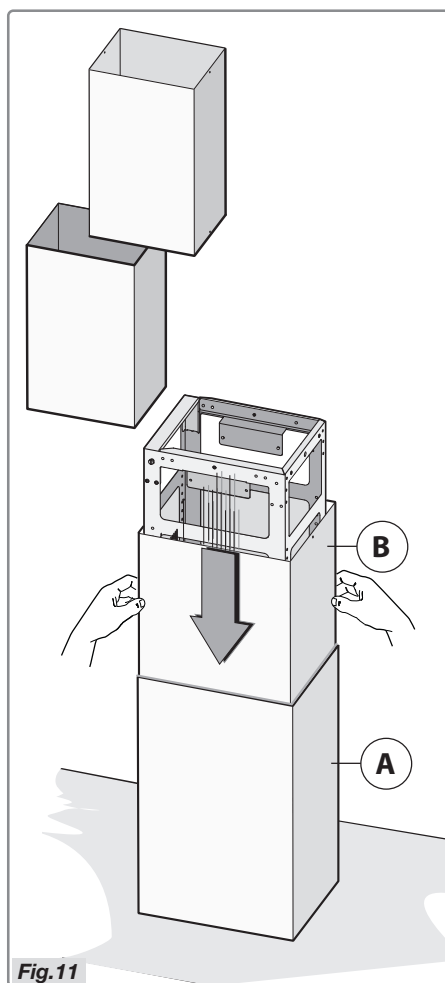

Fig.11
- Connect the bottom shaft **A** with the top one **B** as indicated in Figure 11.